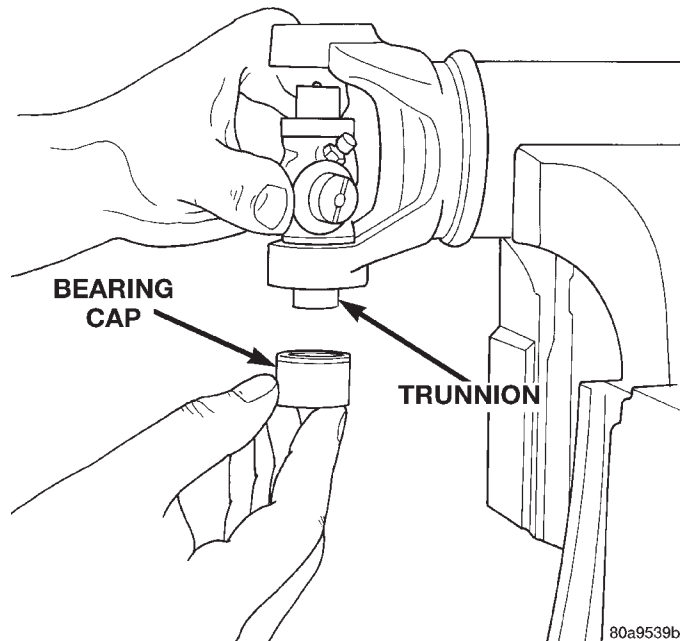

Fig. 19 Install Bearing On Trunnion
(3) Place a bearing cap over the trunnion and align the cap with the yoke bore (Fig. 19). Keep the needle bearings upright in the bearing assembly. A needle bearing lying at the bottom of the cap will prevent proper assembly.
(4) Press the bearing cap into the yoke bore enough to install a snap ring.
(5) Install a snap ring.
(6) Repeat Step 3 and Step 4 to install the opposite bearing cap. If the joint is stiff or binding, strike the yoke with a soft hammer to seat the needle bearings.
(7) Add grease to lube fitting, if equipped.
(8) Install the propeller shaft.